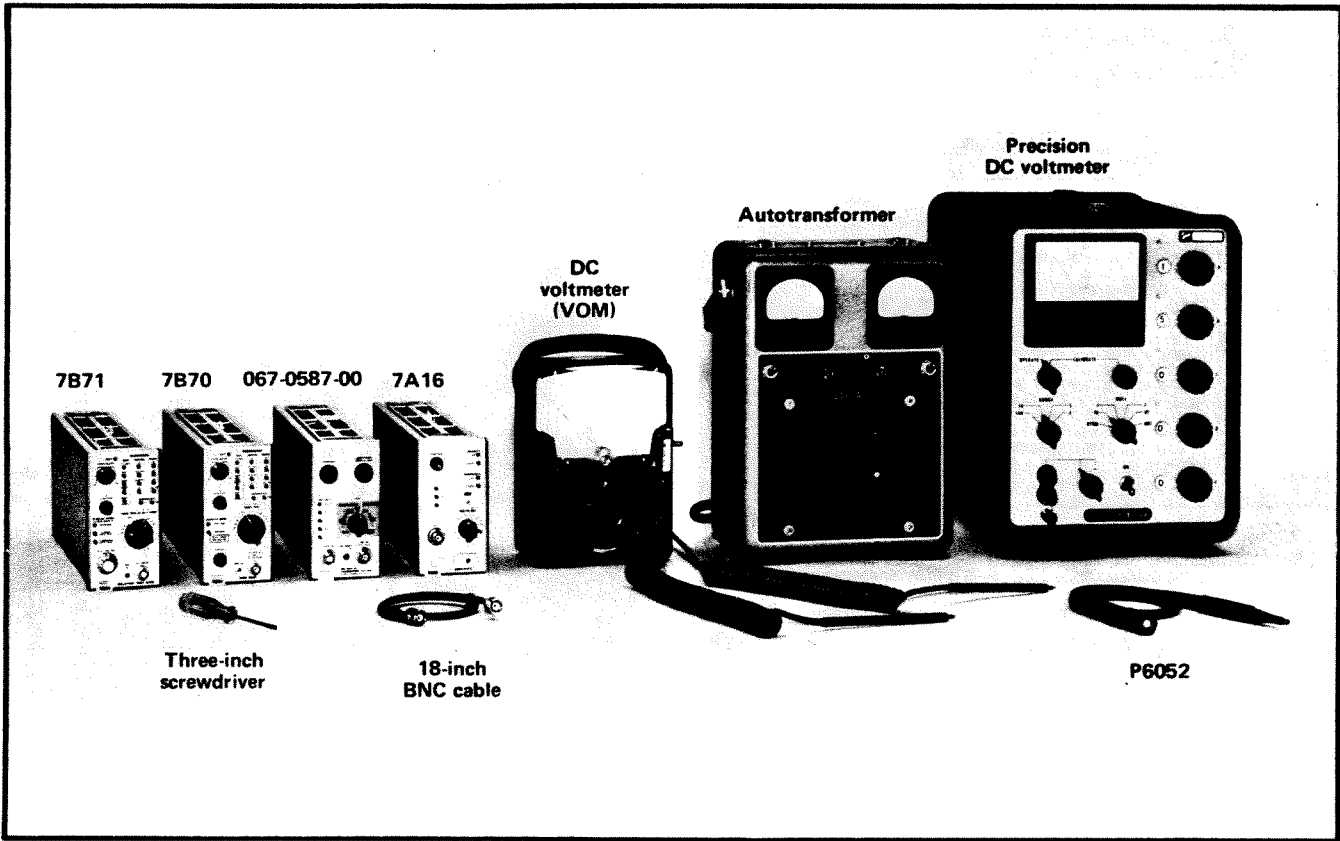

Fig. 5-1. Test equipment required for steps 1 through 11.
- a. Test equipment required for steps 1 through 11 is shown in Fig. 5-1.